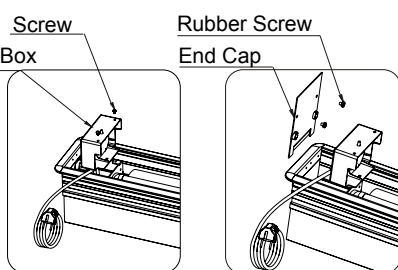

Figure 7
- Unscrew and remove the Power Box assembly enough to access the top of the case (figure 7).